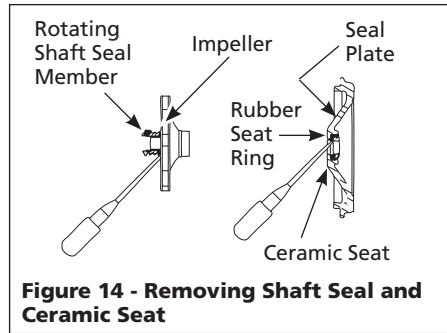

Figure 14 - Removing Shaft Seal and Ceramic Seat
9. Pry the rotating shaft seal member from the impeller (Figure 14).
10. Push or pry the ceramic seat free from the seal plate (Figure 14).